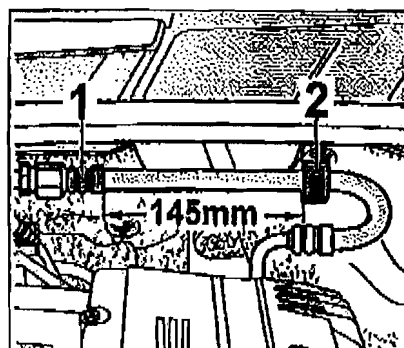

Figure 6
4.9.1 Use a white water-resistant pen to mark the fuel line 145 mm from the press-on sleeve ⇒ Figure 6 -1- (⇒ Figure 6).
4.9.2 Align the spacer ring ⇒ Figure 6 -2- with the marking you made on the fuel line in Step 4.9.1 so that the lock on the spacer ring is facing downwards.